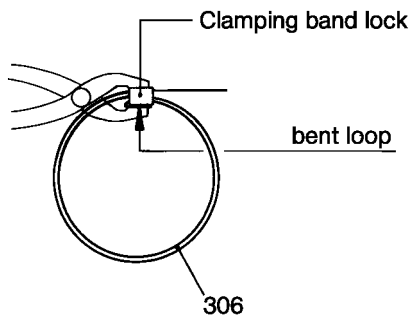

Figure 12: Press joint clamp loop against joint clamp lock.
- By means of a screw driver, mount joint collar (308), lift top by means of a screw driver, run spray pipe of the oil bottle under the collar and fill joint chamber with Allweiler special joint oil Type B or oil ET 1510 ISO 460 of Messrs. Tribol Lubricants GmbH, Mönchengladbach, Germany. When used for foodstuffs, fill with ALLWEILER special joint oil Type BL or oil 1810/460 of Tribol Lubricants GmbH, Mönchengladbach, Germany. For the filling quantity, please refer to the table Section 7.1.2.6 above.
- Check whether bent loop of the joint clamp (306) rests against the joint clamp lock. If not, press against by means of commercial flat pliers (please refer to Figure 12 below).